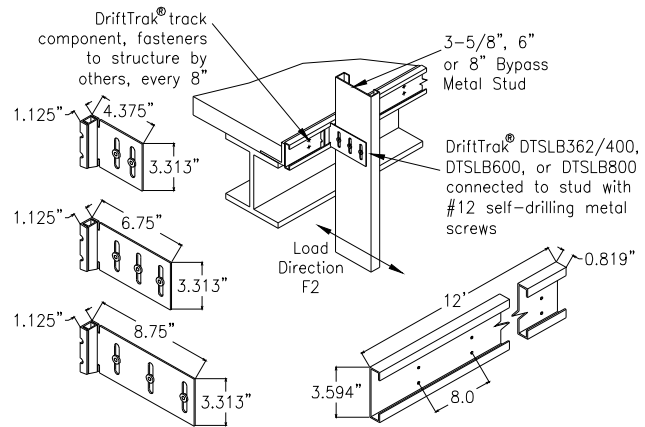

Figure 4 – DriftTrak® DTSLB362/400, DTSLB600 and DTSLB800
3.1.5 DriftTrak® DTSLB: DriftTrak® DTSLB362/400, 600 and 800 are L-shaped angle and track combinations that connect $3\frac{5}{8}$ - or 4-, 6- and 8-inch-deep (92 or 102, 152, and 203 mm) exterior curtain wall steel studs, respectively, to a concrete floor slab's pour-stop angle while allowing a maximum of 2 inches (51 mm) of vertical movement, and free horizontal movement between exterior wall elements and the primary structure. The minimum base-metal thickness of the clip is 0.0677 inch (1.7 mm), and the minimum base-metal thickness of the track is 0.0966 inch (2.5 mm). The long leg of the DriftTrak® DTSLB connector, which is fastened to the curtain wall stud, has two or three vertical slots, each $\frac{3}{8}$ inch (9.5 mm) wide by $2\frac{3}{8}$ inches (60 mm) long and has bushings designed for No. 12-14 by 1-inch self-drilling/self-tapping steel screws installed in the centers of the slots. Refer to Figure 4 for overall dimensions of each DriftClip® DTSL connector and a typical installation detail.